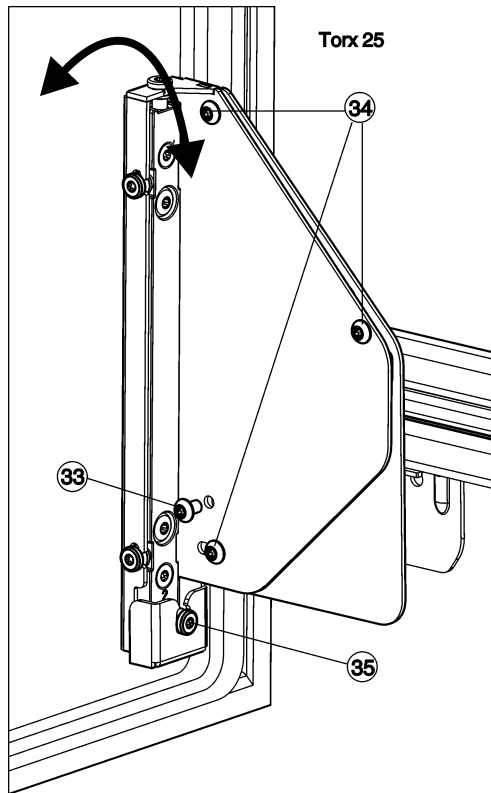

Fig. 26
- Unscrew and remove the screw Fig. 26 (33).
- ▷ Dispose of the screw Fig. 26 (33), it is no longer needed.
- Just loosen the screws Fig. 26 (34) by 1 to 2 turns.
- Turn the adjusting screw Fig. 26 (35). Clockwise: for inclination of the door away from the appliance body at the top. Anticlockwise: for inclination of the door towards the appliance at the top and away from the appliance body at the bottom.
- After having adjusted the inclination, re-tighten all the screws Fig. 26 (34).